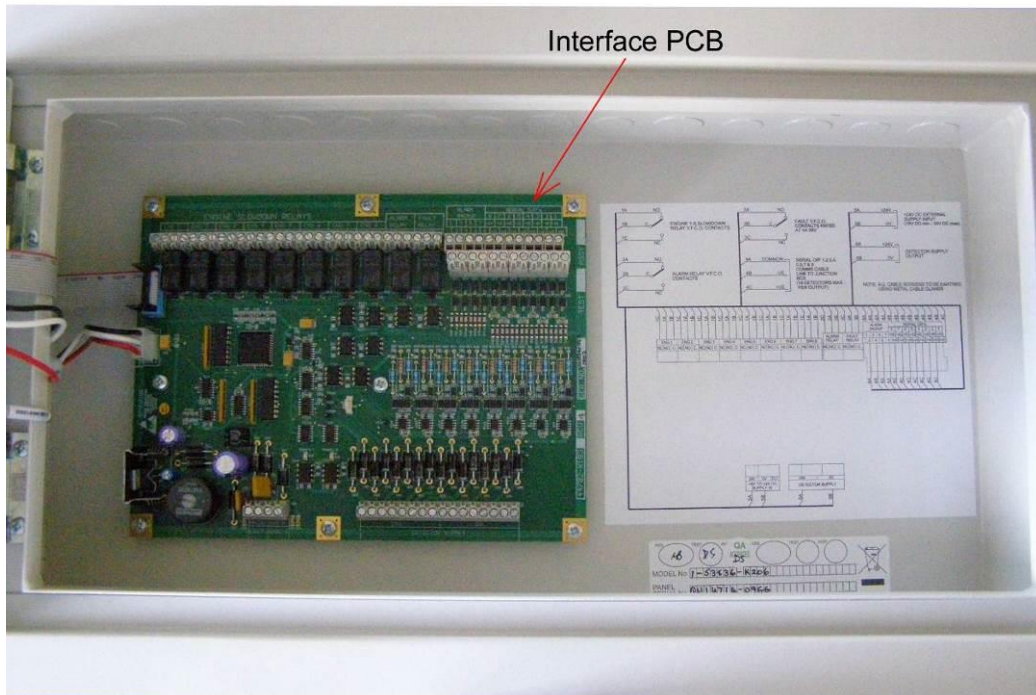

Figure 58 Control Unit PCB's
3.6.3 Interface PCB Replacement. Part No. 1-44782-K183 (refer to Figure 58)